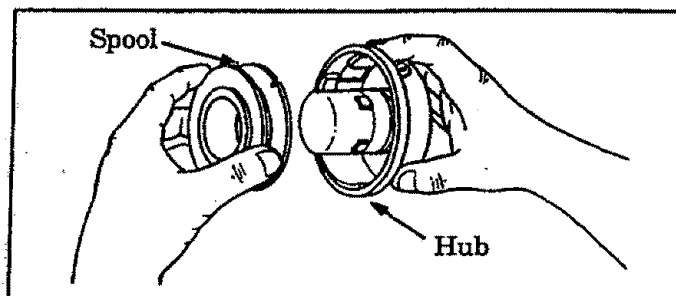

Figure 14
- b. Remove the Spool. Figure 14 .